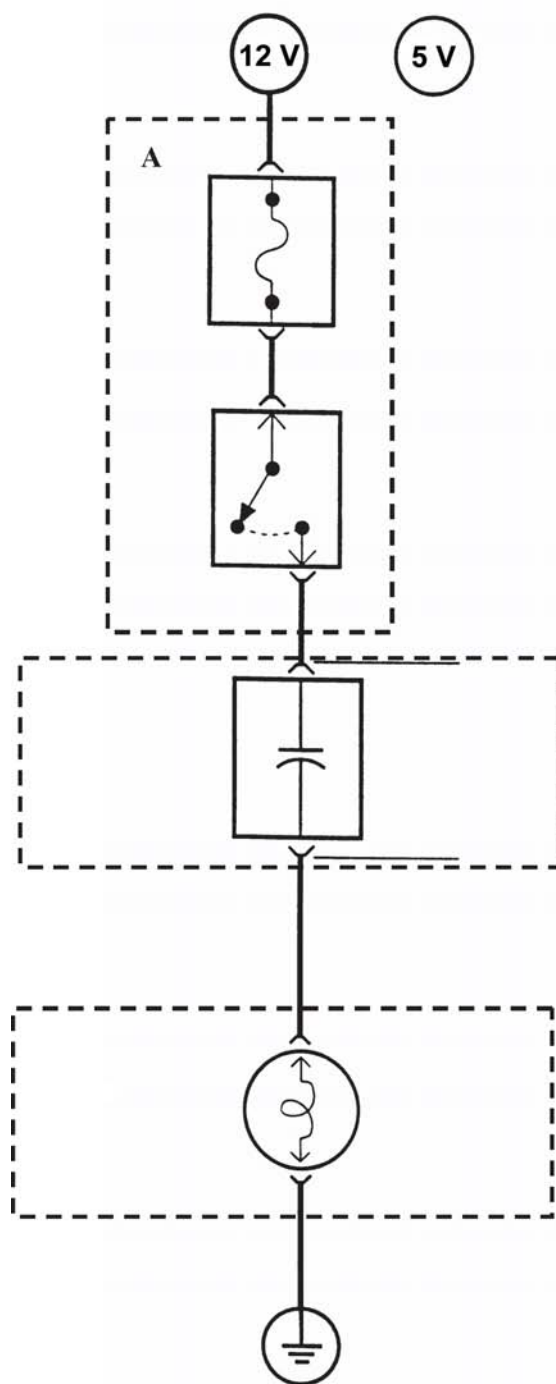

Figure 11-55, Experiment 11-7
1. Assemble the circuit shown in figure 11-55.